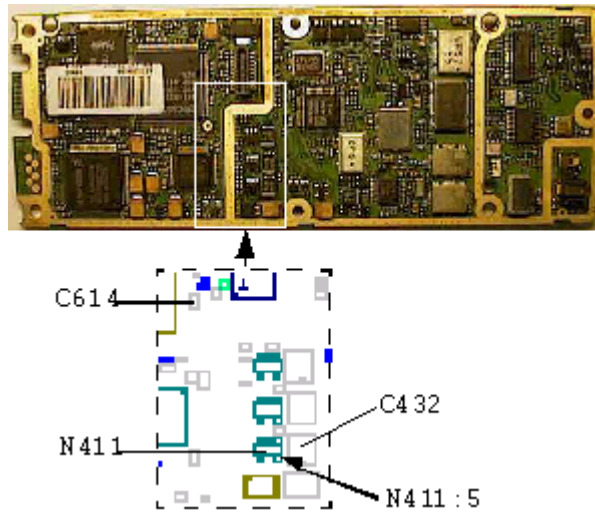

Fig. 9.5
- * If it's correct, measure the voltage at N411 pin 5 (~3.8V, fig. 9.5).
* If it's correct, measure the voltage at N411 pin 5 (~3.8V, fig. 9.5).